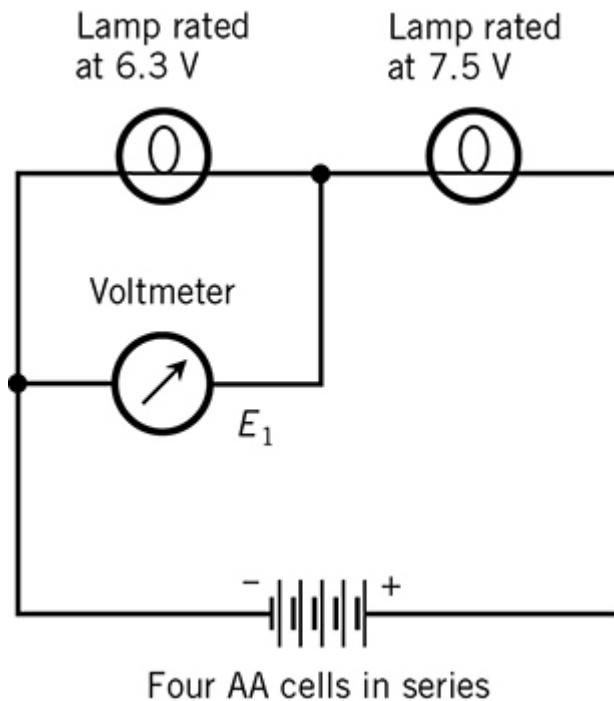

FIG. 6-19 Measurement of voltage E_1 across the more negative of two dissimilar lamps in series.
When two dissimilar incandescent lamps operate in series, they receive different voltages and consume different amounts of *volt-ampere* (VA) power, as this experiment demonstrates. (Remember from your basic electricity courses that in a DC circuit, power in watts equals voltage in volts times current in amperes, hence the term *volt-ampere* for simple DC power.) You'll need a 6.3-V lamp, a 7.5-V lamp, a battery of four AA cells, and your multimeter set to measure voltage, as shown in the schematic of Fig. 6-19. You'll also need some jumpers.
Set your meter to read DC volts. Connect the jumpers so the lamps are in series and both glow at partial brilliance. Measure the voltage E_1 across lamp N as shown in Figs. 6-19 and 6-20. Then measure the voltage E_2 across lamp P as shown in the schematic of Fig. 6-21 and the equivalent layout pictorial of Fig. 6-22. When I performed these tests, I got the meter readings: